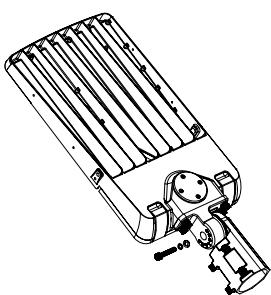

Figure 6
1. Align fixture head and slipfitter at the desired angle with the knuckle. (See Fig. 6)